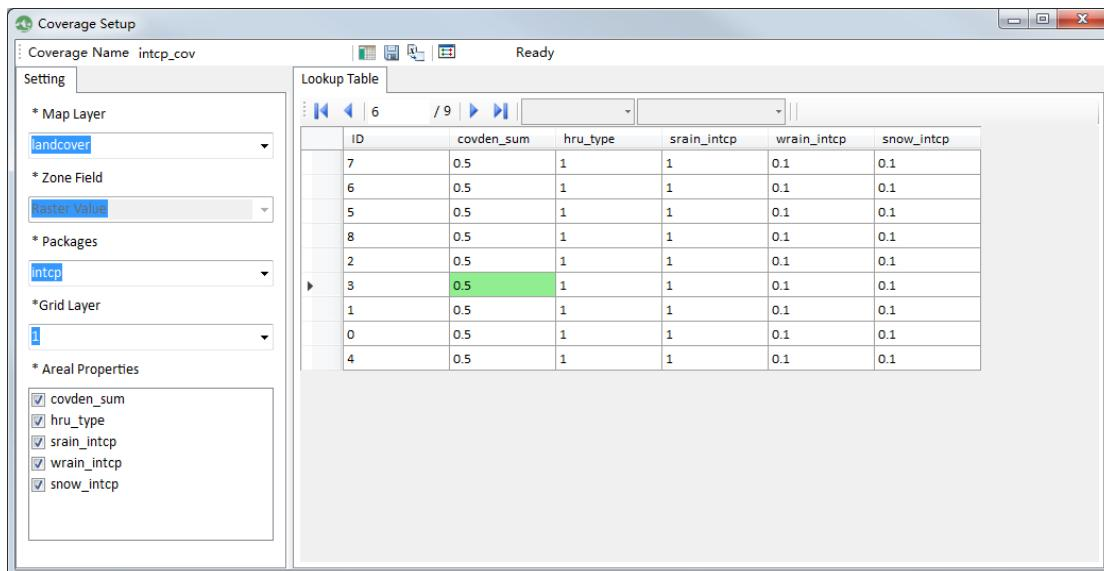

Figure 5-12. Performing intcp package parameterization
- 13) Following step 2, create a new coverage named “intcp_cov”, select “landcover” from the Map Layer dropdown list, select intcp from the Packages dropdown list, and then click the button Create Lookup Table (Figure 5-12).